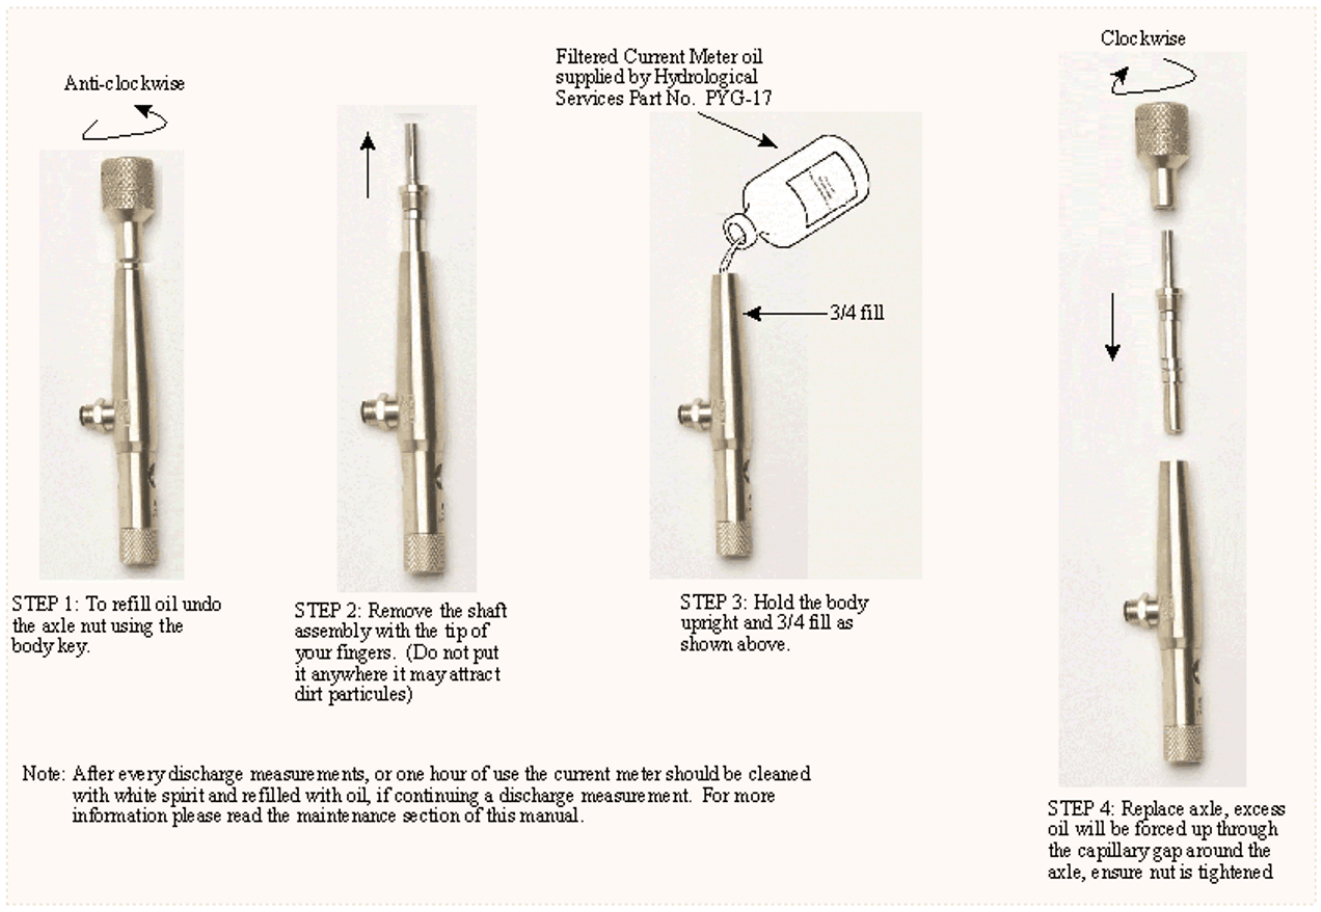

Figure 1
- Hold the body upright and $\frac{3}{4}$ fill as shown in figure 1 .